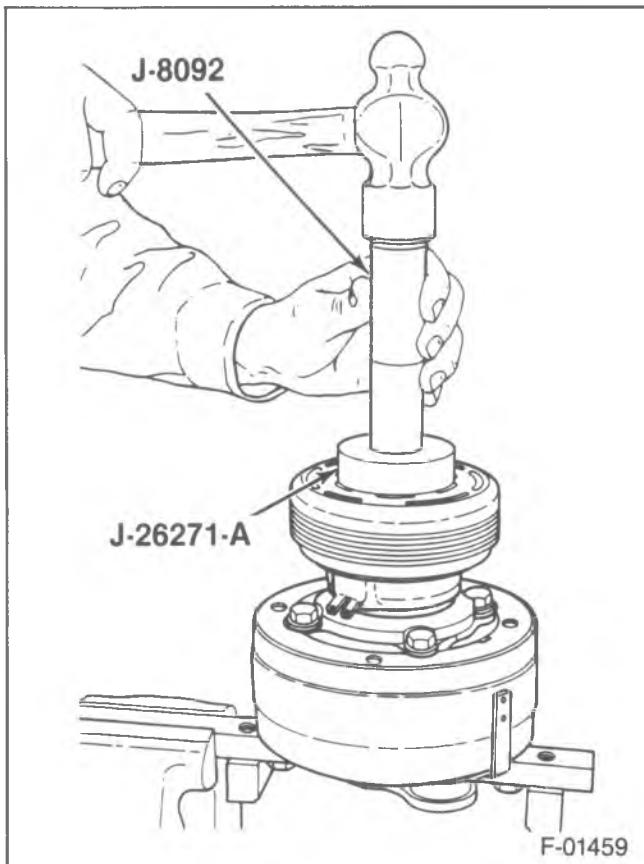

Figure 14—Installing the Rotor and Bearing Assembly — Multi-Rib Type
- Rotor (5) and bearing (6) assembly to the compressor with J-26271-A and J-8092 (figure 14).
- Retainer ring (4) with J-6083.
- Clutch drive hub (3).